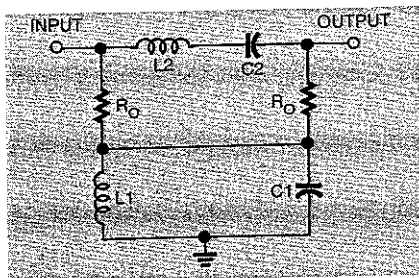

Fig. 10. Here's a practical bandpass diplexer design intended for use with mixers. Values are calculated using the equations in the text
Diplexer Design. Figure 10 shows a practical bandpass diplexer design intended for use with mixers. The values of the R_0 resistors is the system design impedance (50 ohms in most cases). The values of $L1$, $L2$, $C1$, and $C2$ are determined by the center frequency (f_0) of the desired pass band. The Q of the filter is f_0 divided by the necessary bandwidth (BW). The values of these components for